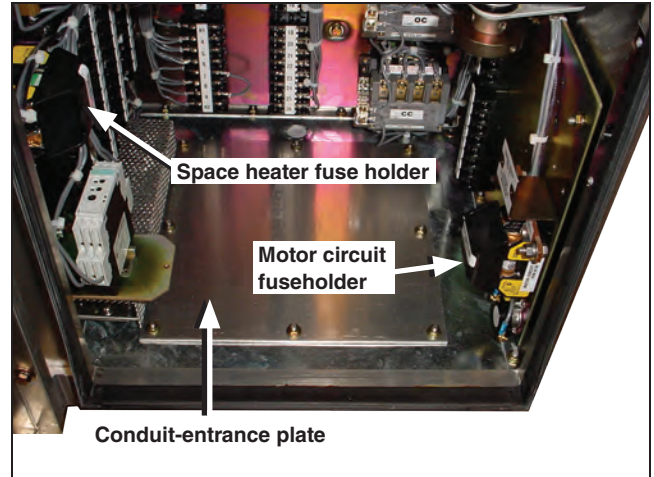

Figure 55. The conduit entrance plate.
- STEP 1.** Mark the conduit entrance location for the control-circuit and control-power wiring on the conduit-entrance plate at the bottom of the switch operator enclosure. See Figure 55. Remove the conduit-entrance plate and cut out the necessary openings.
To avoid accidental energizing of the operator after the external connections have been completed, remove the two-pole pull-out fuseholders for the motor and space heater. See Figure 55. **Reinsert the fuseholder only when indicated in the following steps.**